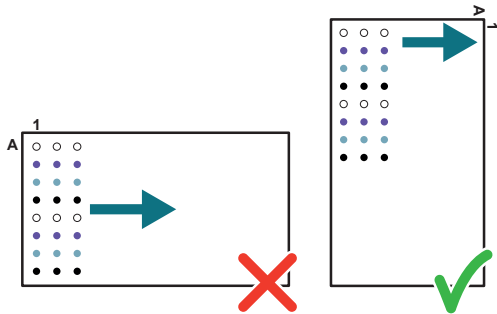

Figure 28. Rotating the Sample Reagent Plate
**NOTE:** Rotate the Sample Reagent Plate (384-well) 90 degrees clockwise to facilitate pipetting (shown to the right of Figure 28).